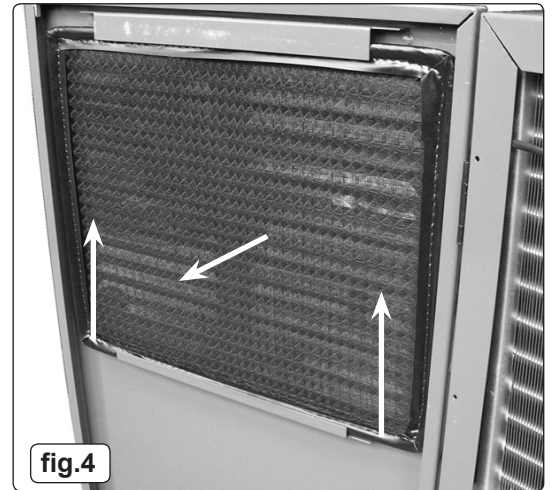

fig.4
- 4.1.2 Lift up the filter element from the bottom as shown in fig.4 and lift out of the holder.